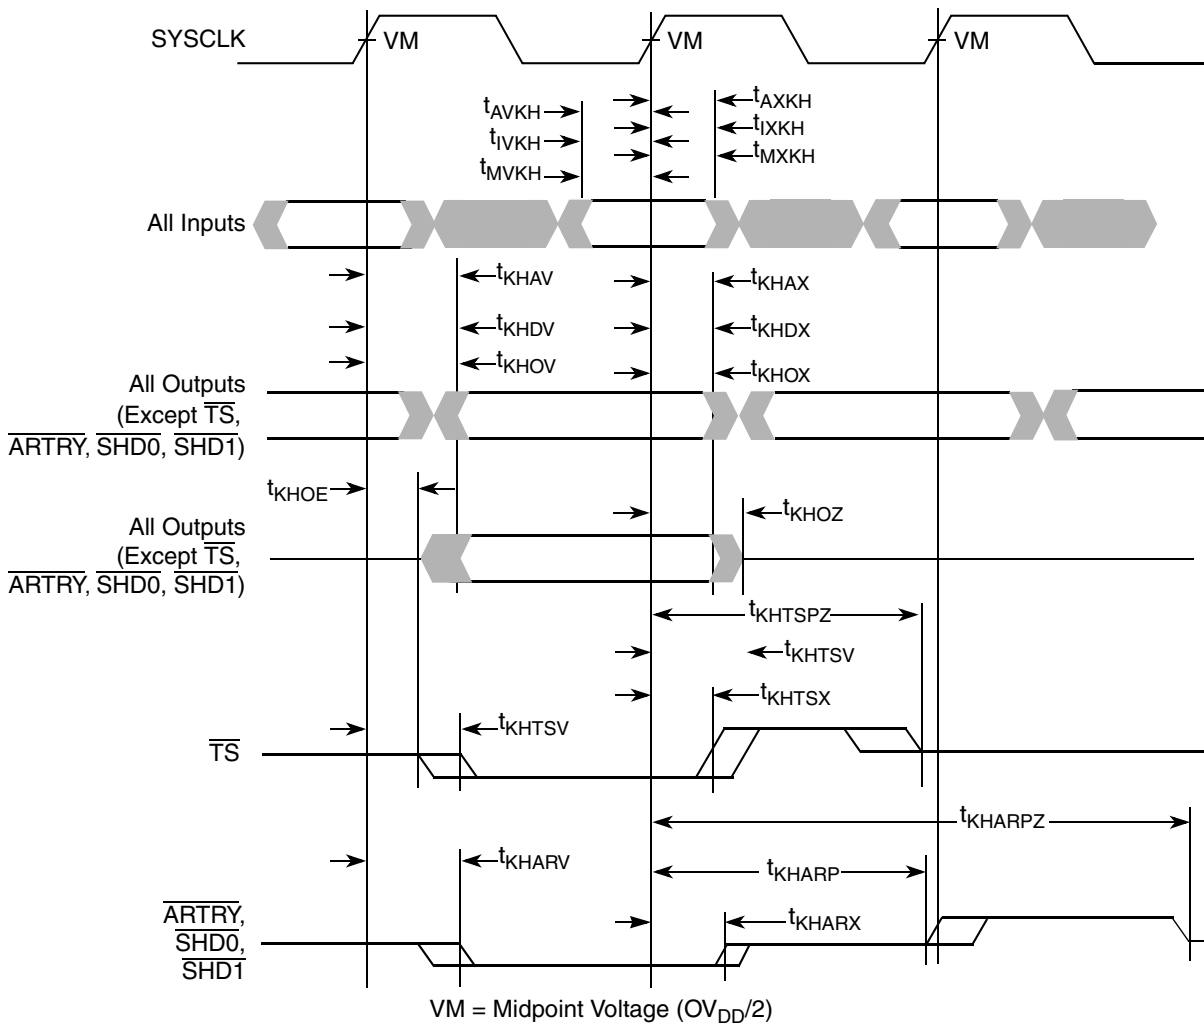

Figure 6. Input/Output Timing Diagram
Table 8 provides the clock AC timing specifications as defined in Figure 6 and represents the tested operating frequencies of the devices. The maximum system bus frequency, f_{SYSCLK} , given in Table 8 is considered a practical maximum in a typical single-processor system. The actual maximum SYSCLK frequency for any application of the MPC7457 will be a function of the AC timings of the MPC7457, the AC timings for the system controller, bus loading, printed-circuit board topology, trace lengths, and so forth, and may be less than the value given in Table 8. For information regarding the use of spread spectrum clock generators, see Section 9.1.3, “System Bus Clock (SYSCLK) and Spread Spectrum Sources.” PLL configuration and bus-to-core multiplier information is found in Section 9.1.1, “Core Clocks and PLL Configuration.”
- The symbology used for timing specifications herein follows the pattern of $t_{(\text{signal})(\text{state})(\text{reference})(\text{state})}$ for inputs and $t_{(\text{reference})(\text{state})(\text{signal})(\text{state})}$ for outputs. For example, t_{VKKH} symbolizes the time input signals (I) reach the valid state (V) relative to the SYSCLK reference (K) going to the high (H) state or input setup time. And t_{KHOV} symbolizes the time from SYSCLK(K) going high (H) until outputs (O) are valid (V) or output valid time. Input hold time can be read as the time that the input signal (I) went invalid (X) with respect to the rising clock edge (KH) (note the position of the reference and its state for inputs) and output hold time can be read as the time from the rising edge (KH) until the output went invalid (OX).
- According to the bus protocol, $\overline{\text{TS}}$ is driven only by the currently active bus master. It is asserted low then precharged high before returning to high impedance as shown in Figure 6. The nominal precharge width for $\overline{\text{TS}}$ is $0.5 \times t_{\text{SYSCLK}}$, that is, less than the minimum t_{SYSCLK} period, to ensure that another master asserting $\overline{\text{TS}}$ on the following clock will not contend with the precharge. Output valid and output hold timing is tested for the signal asserted. Output valid time is tested for precharge. The high-impedance behavior is guaranteed by design.
- According to the bus protocol, $\overline{\text{ARTRY}}$ can be driven by multiple bus masters through the clock period immediately following $\overline{\text{AACK}}$. Bus contention is not an issue because any master asserting $\overline{\text{ARTRY}}$ will be driving it low. Any master asserting it low in the first clock following $\overline{\text{AACK}}$ will then go to high impedance for one clock before precharging it high during the second cycle after the assertion of $\overline{\text{AACK}}$. The nominal precharge width for $\overline{\text{ARTRY}}$ is $1.0 t_{\text{SYSCLK}}$; that is, it should be high impedance as shown in Figure 6 before the first opportunity for another master to assert $\overline{\text{ARTRY}}$. Output valid and output hold timing is tested for the signal asserted. The high-impedance behavior is guaranteed by design.
Figure 6 provides the input/output timing diagram for the MPC7457.